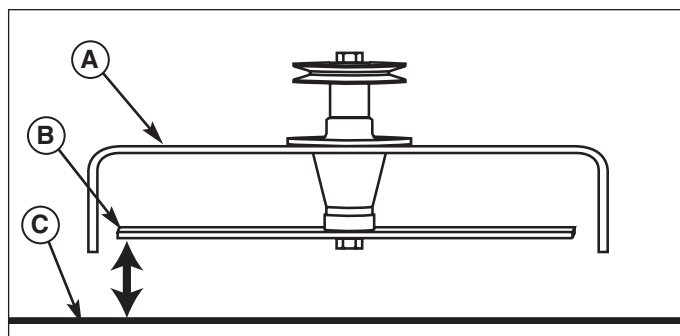

Figure 28. Measure Blade Tips to Ground
7. Measure the distance from the ground to the front tip of the center blade, and from the ground to rear tips of left-hand and right-hand blades (Figures 28 & 30). The front tip of the center blade should be 1/4" (6mm) higher than rear tips of left-hand and right-hand blades. If not, proceed with steps 8 - 11.